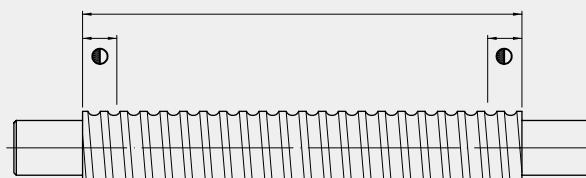

Fig 4.8 The heat treatment range of the ballscrew spindle
- (9) After heat treating the ballscrew spindle, both ends of the balltracks adjacent to the journal have about 2 to 3 leads left soft, for the purpose of machining. These regions are shown in (Fig. 4.8) with the mark “●” on HIWIN drawings. Please contact engineers if special requirements are needed in these regions.